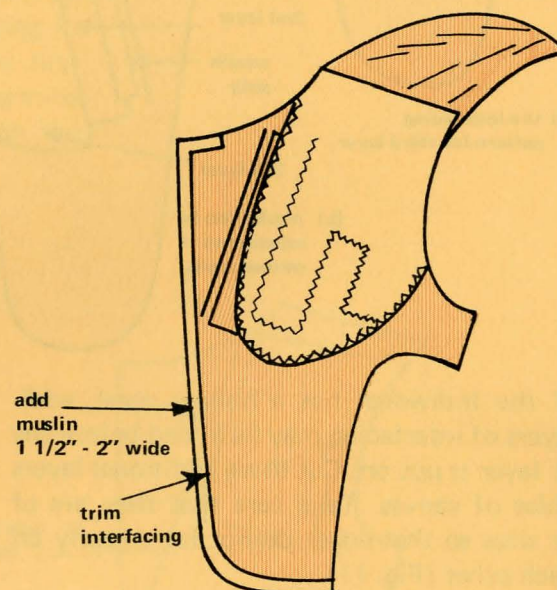

Fig. 14. Substitute a muslin piece along edge
2. Cut a muslin piece  $1\frac{1}{2}$ " to 2" wide according to the pattern around the lapel and front seam. Line up the cut edge with the interfacing cut edge and stitch the muslin to the interfacing along the inner edge of the muslin. A narrow zigzag or straight stitch may be used (Fig. 14). Trim the interfacing close to the stitching line. Baste to the front. Then only the muslin strip will be caught in the seamline when stitched.